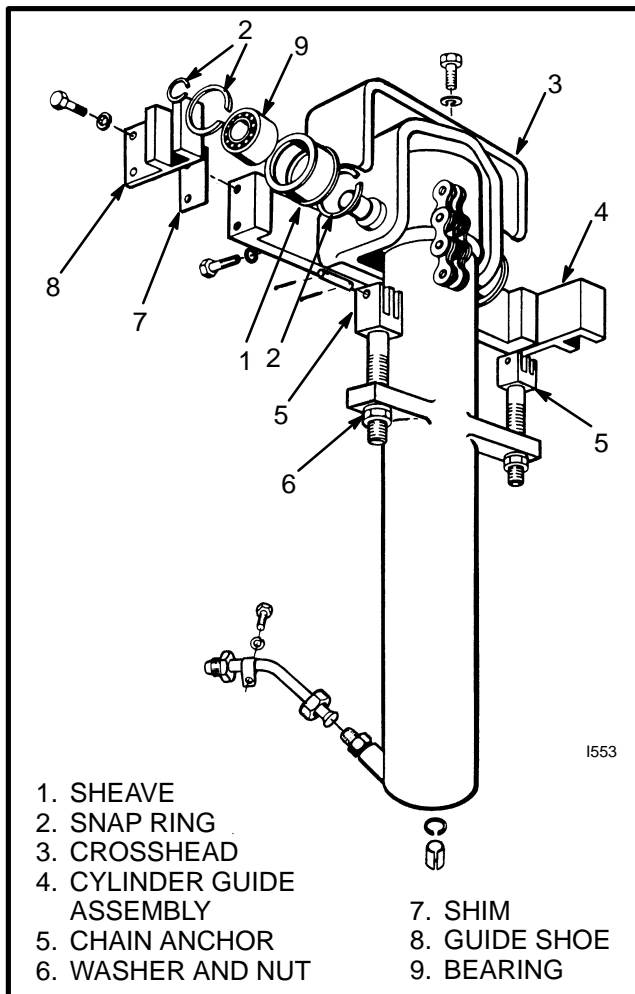

FIGURE 10. FREE-LIFT CYLINDER AND CROSSHEAD
**Standard and Full Free-Lift Masts with the Lift Cylinder Fastened to a Crosshead (See FIGURE 9. and FIGURE 10.)**